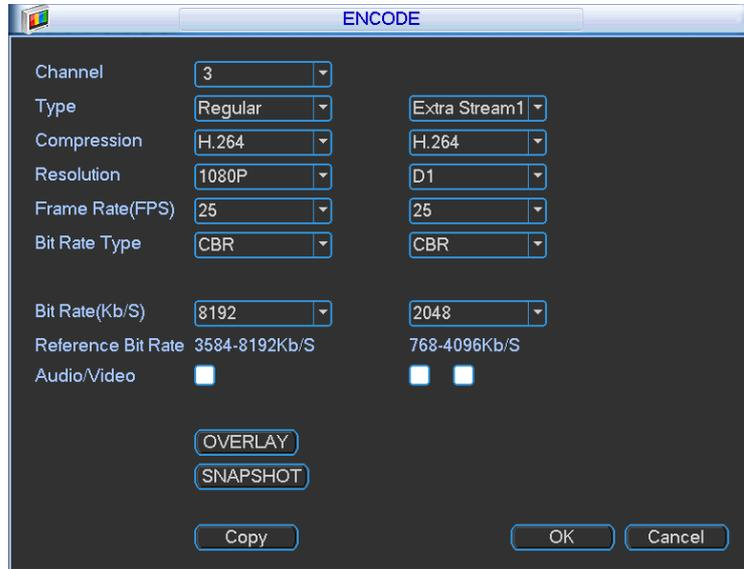

Figure 5-33
From Main menu->Setting->Encode, you can see the following interface. See Figure 5-33.
From Main menu->Setting->Encode, you can go to encode interface. See Figure 5-33.
- From Main menu->Setting->Encode, you can go to encode interface. See Figure 5-33.